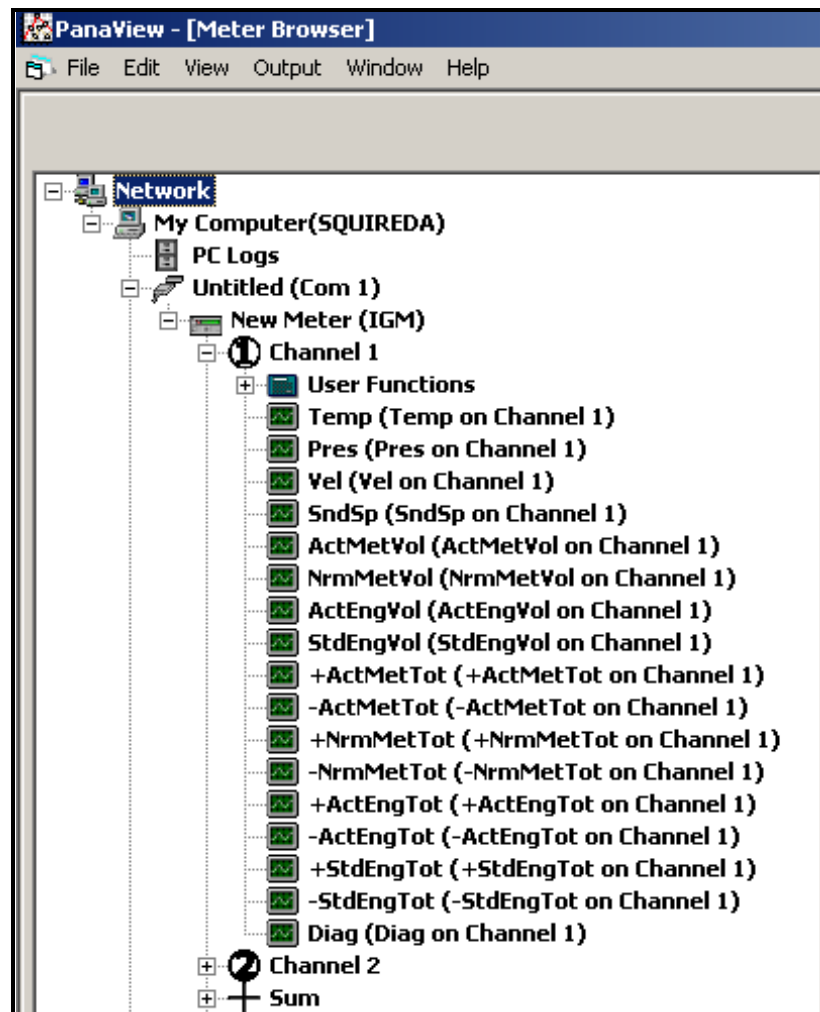

Figure 3-20: PanaView Output Menu
4. Click on the + sign before each level to open it (see Figure 3-20 below and Table 3-1 on page 3-21 for an explanation of terms).